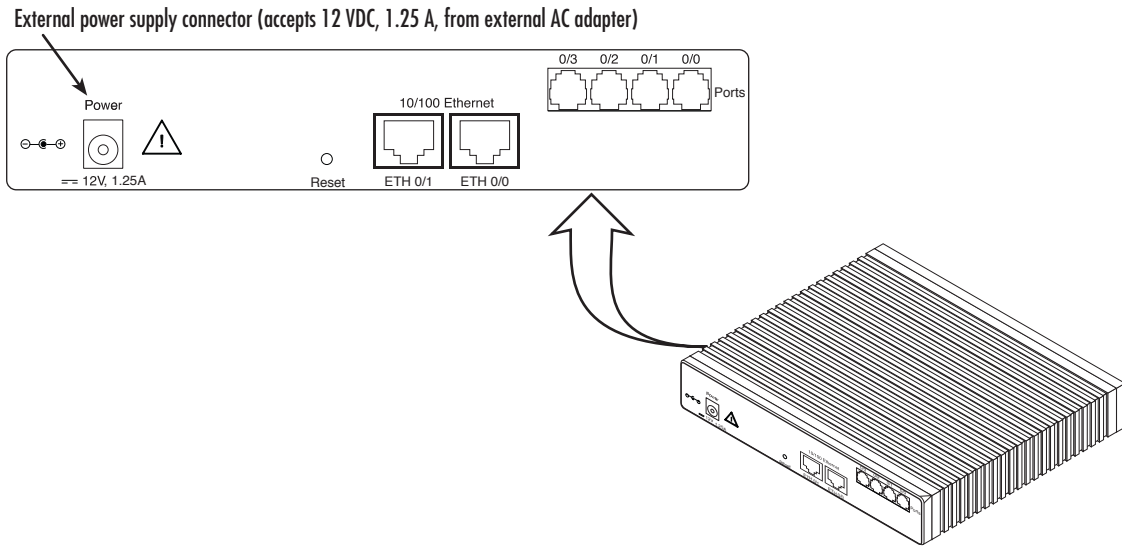

Figure 3. SmartNode 2294 power input connectors
- *EUI* stands for external universal input power supply (see figure 3)